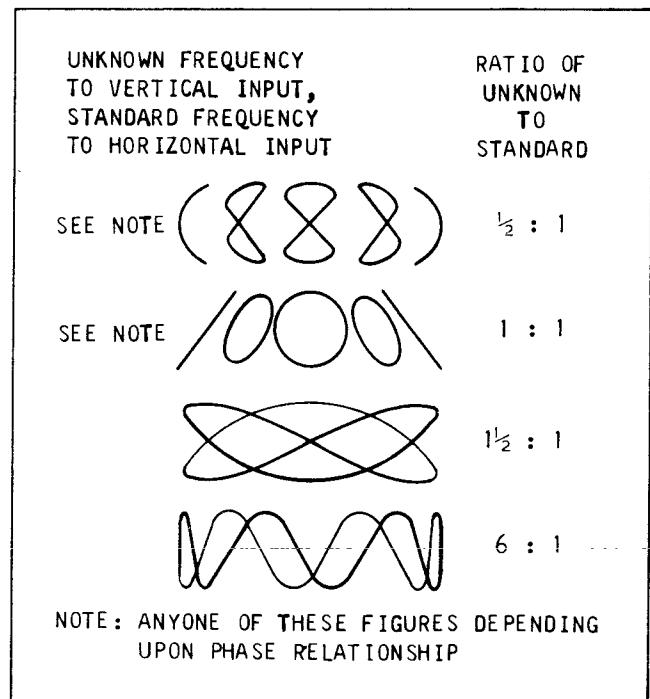

Fig. 37. Lissajous waveforms used for frequency measurement.
- The resulting pattern, called a Lissajous pattern, shows the ratio between the two frequencies. See Fig. 37.